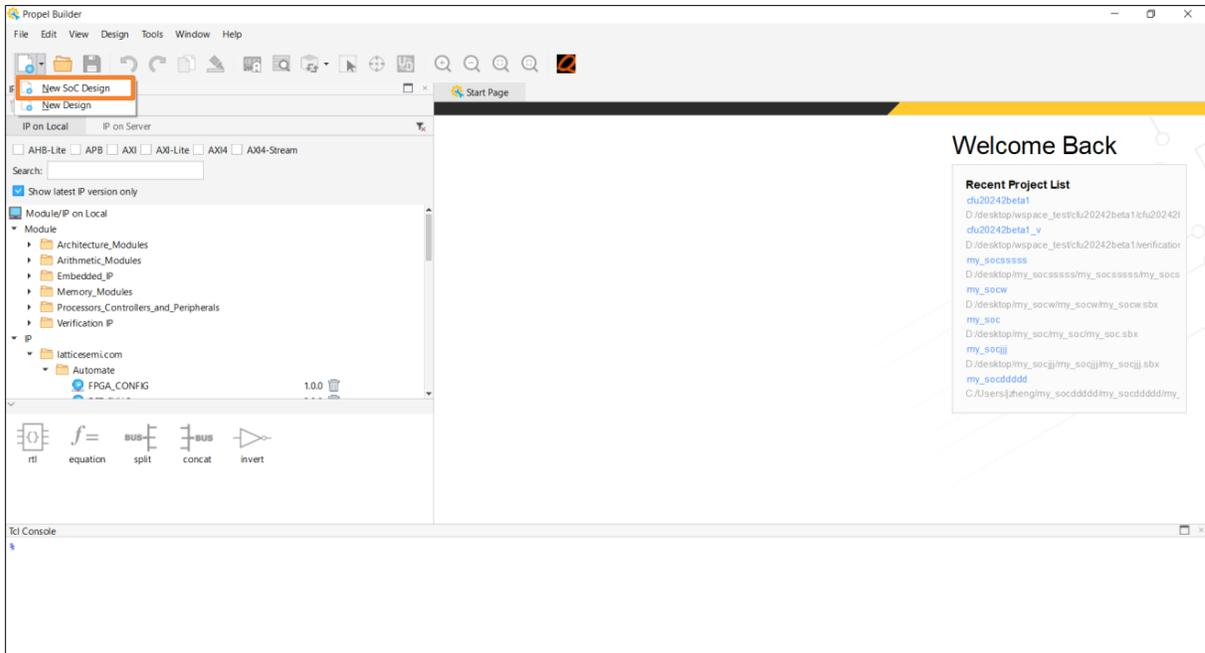
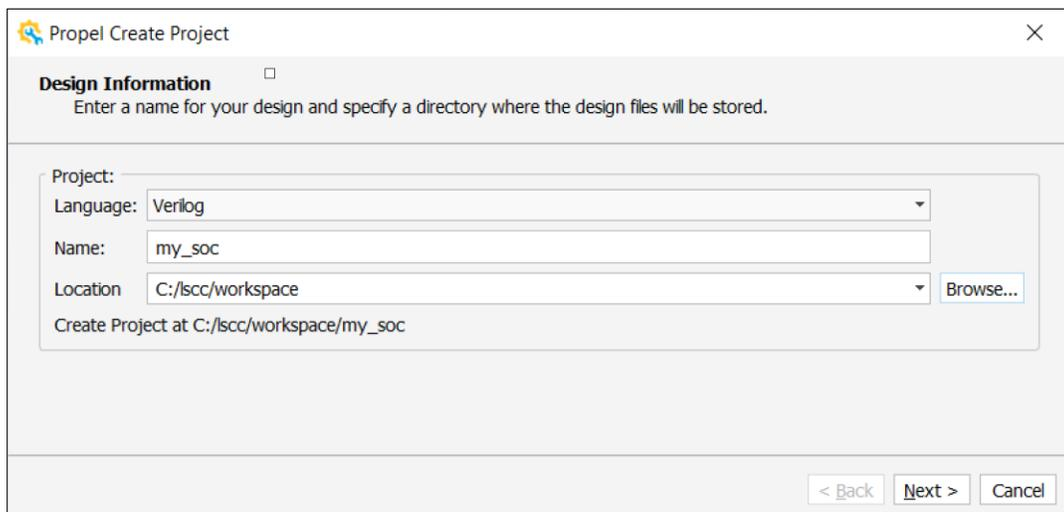

Figure 2.3. New SoC Project
Figure 2.4. Create System Design – Design Information Wizard
- Choose **File >  New SoC Design** from the Lattice Propel Builder Menu bar (Figure 2.3), the Create System Design wizard opens (Figure 2.4). If you want to use an empty project, a scalable RISC-V SoC design, a pre-defined SoC template, or a user custom template, you can use this entry.